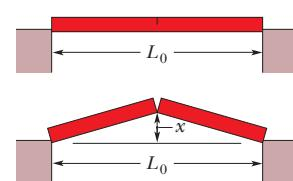

Figure 18-32 Problem 21.
- 21 SSM ILW As a result of a temperature rise of  $32^\circ\text{C}$ , a bar with a crack at its center buckles upward (Fig. 18-32). The fixed distance  $L_0$  is 3.77 m and the coefficient of linear expansion of the bar is  $25 \times 10^{-6}/\text{C}^\circ$ . Find the rise  $x$  of the center.